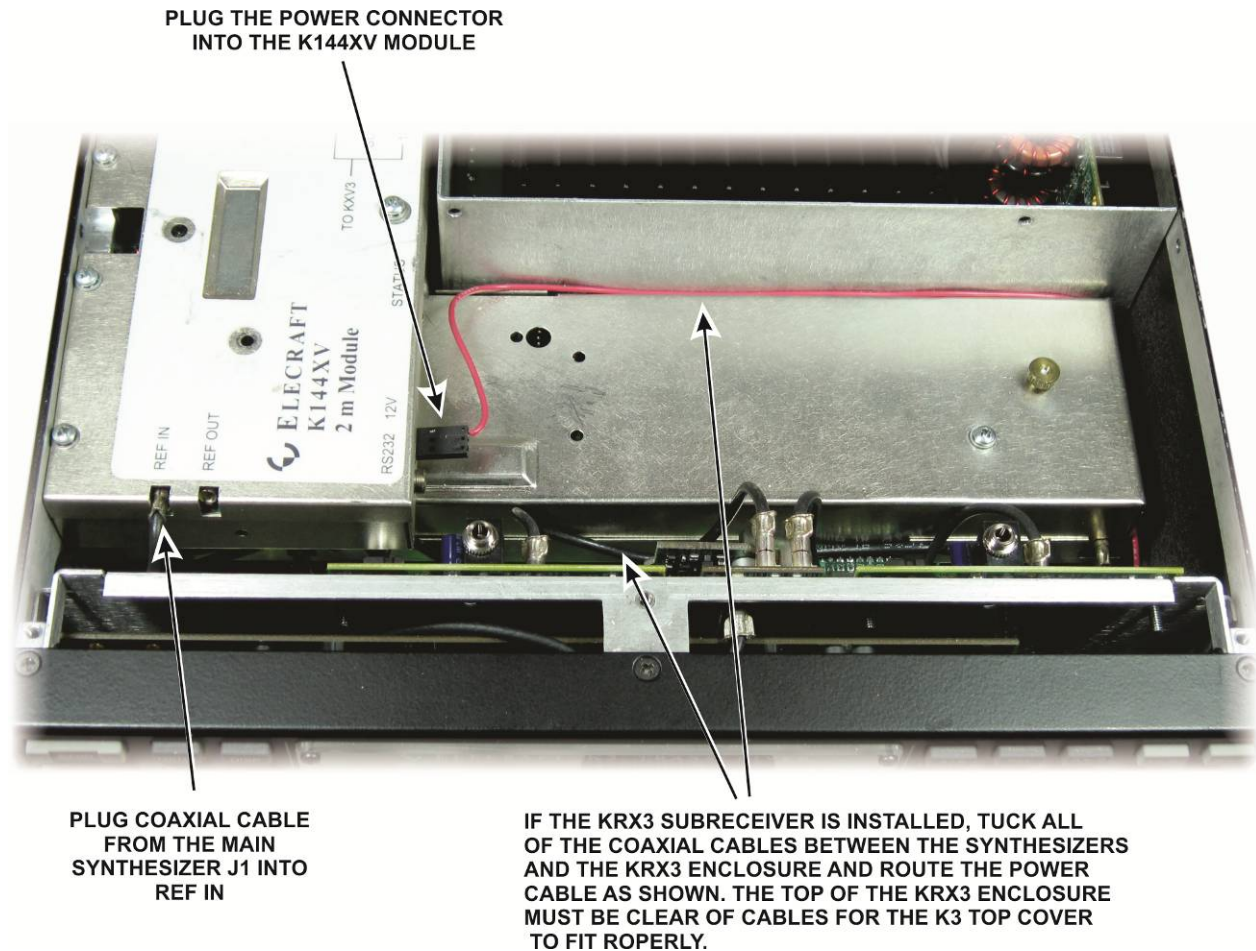

Figure 15. Connecting and Dressing the Cables.
- If you have the K144XV 2-meter module installed, connect the coaxial cable from the main KSYN3A synthesizer board to REF IN as shown in Figure 15. Also reconnect the power cable as shown.
- If you have the KRX3 subreceiver installed, dress the coaxial and power cables as shown in Figure 15. The area on top of the KRX3 enclosure must be clear of all wires and cables as shown for the K3 top to fit properly.